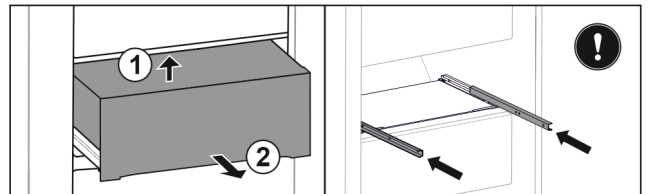

Fig. 135
- ▶ Lift drawer from below. Fig. 135 (1)
- ▶ Remove drawer to the front. Fig. 135 (2)